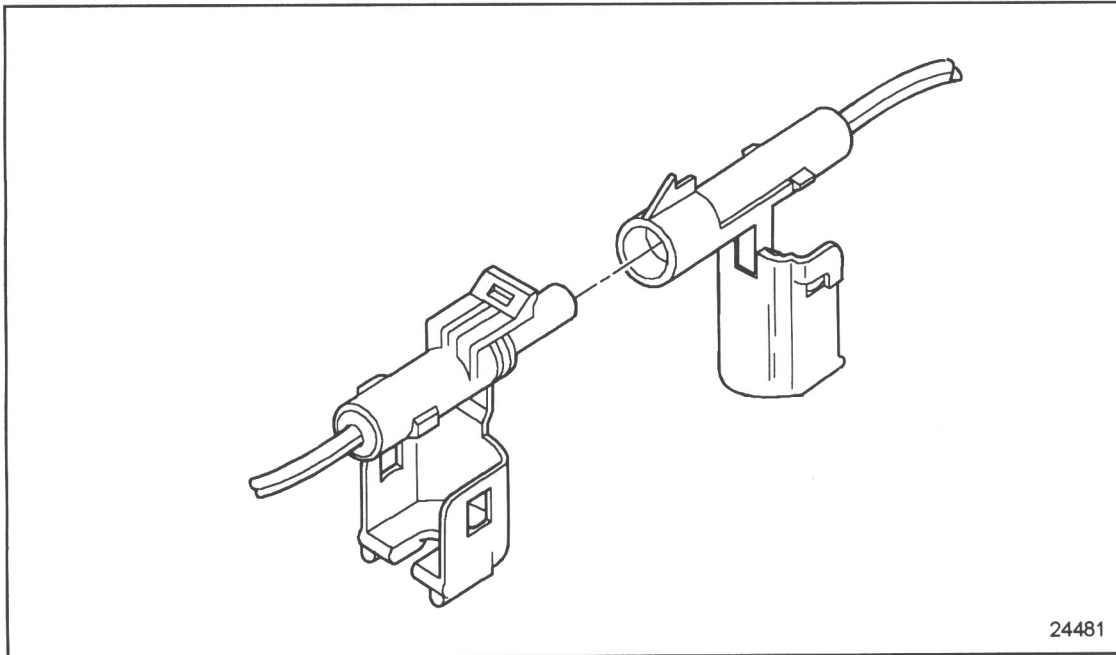

Figure 8-10 Unlatched Secondary Lock
2. Unlatch and open the secondary lock on the connector. See Figure 8-10.